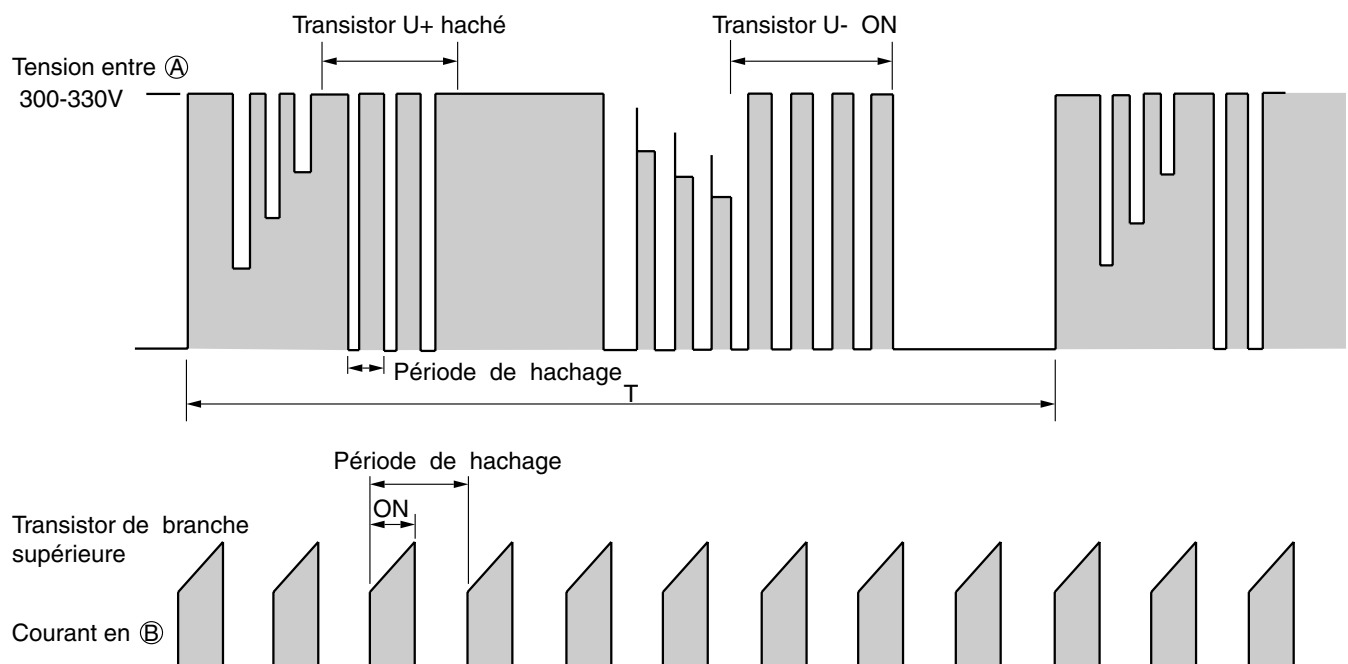

Fig. 3-3 Forme d'onde de la tension en chaque point.
- La Figure 3-3 représente la forme d'onde de la tension à chaque point dans les figures 3-1 et 3-4.
- Since current flows at point ② only when U^+ transistor and V^- transistor is ON, the current waveform at point ② becomes intermittent waveform as shown in Fig. 3-3. Since current at point ② is approximately proportional to the input current of the air conditioner, input current is controlled by using DC current (I_d) detection resistor.